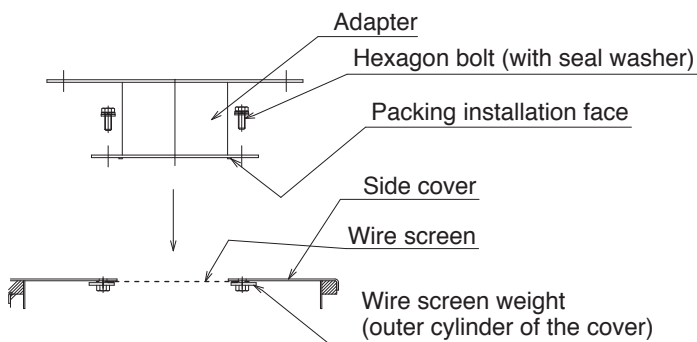

Fig.10
- ③ Tighten the hexagon head bolts together with - in the order of - the adapter, side cover, wire screen and wire screen weight (for V□1, the outer cylinder of the cover) so that the packing installation face of the adapter is the matching face of the side cover. (Attach the seal washer that was with attached to the removed bolts) (See Fig. 10)
- ④ Attach the side cover with the bolts.